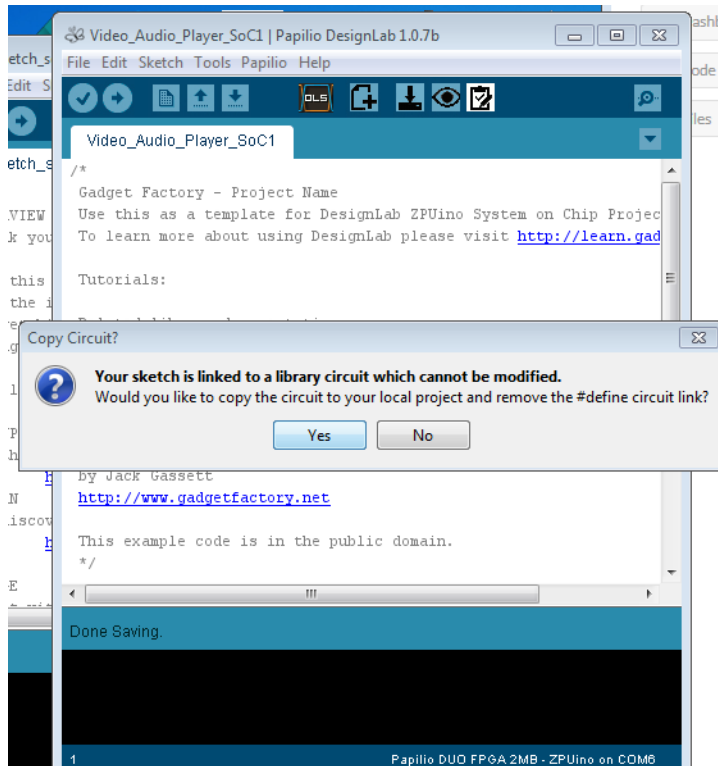

Figure 6-15 DesignLab Edit Circuit
4. To open the Xilinx ISE, in the top toolbar, click Edit Circuit, then click Yes to copy the circuit to your local project (Figure 6-15).